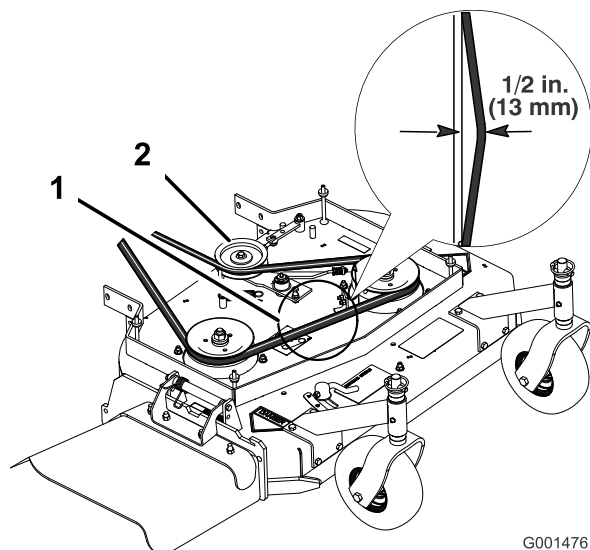
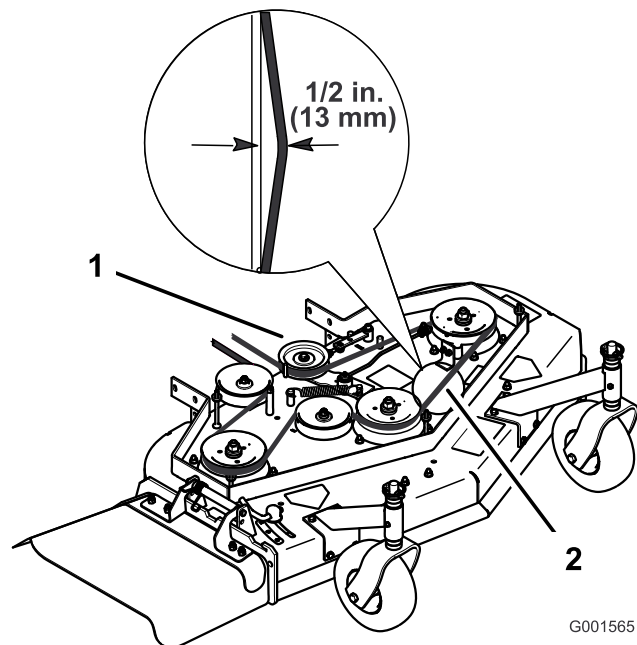

Figure 52
Figure 53
Note: The proper mower belt tension is 10-15 lbf. (44-67 N) with the belt deflected 1/2 inch (13 mm) halfway between the pulleys (Figure 52 or Figure 53).
3. Loosen the locknut on the turnbuckle (Figure 52).
4. Rotate the turnbuckle toward the rear of the mower to increase the tension on the belt. Rotate the turnbuckle toward the front of the mower to decrease the tension on the belt (Figure 52).
Note: The proper mower belt tension is 10-15 lbf. (44-67 N) with the belt deflected 1/2 inch (13 mm) halfway between the pulleys (Figure 52).
Note: The proper mower belt tension is 10-15 lbf. (44-67 N) with the belt deflected 1/2 inch (13 mm) halfway between the pulleys (Figure 53).